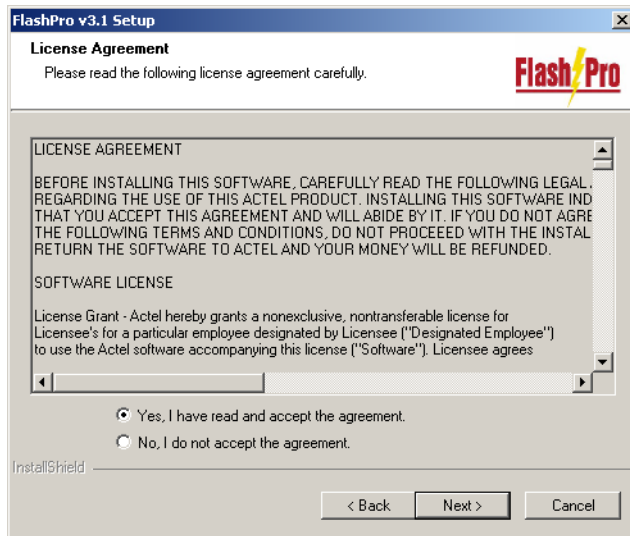

Figure 1-2. License Agreement
3. Click **Yes**, then **Next** to accept the license agreement, as shown in Figure 1-2.